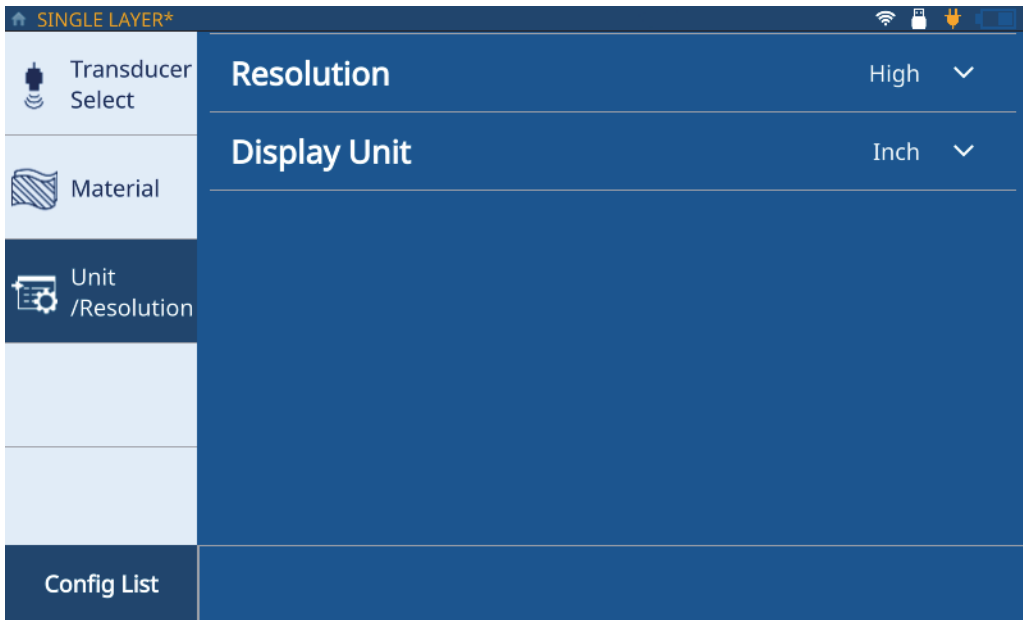

Figure 2-4 Unit/Resolution Tab
10. Click the **Unit/Resolution** tab (See Figure 2-4 on page 16).
14. Repeat steps 12 and 13 until all layers (up to a maximum of 6 layers) have been defined, then click the **Unit/Resolution** tab (See Figure 2-4 on page 16).
12. Click the **Unit/Resolution** tab (See Figure 2-4 on page 16).